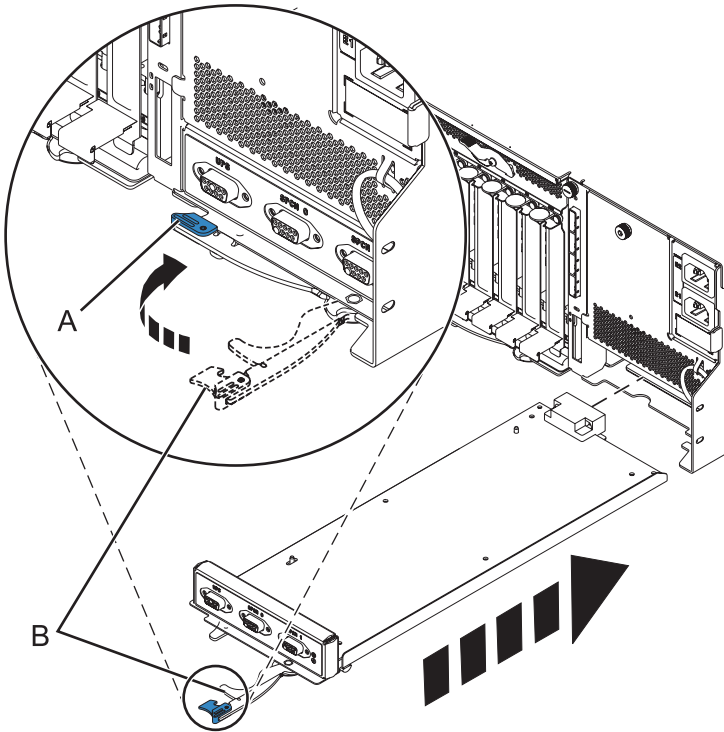

Figure 88. Replacing the enclosure management controller
7. Carefully slide the enclosure management controller into the system and close the latch (A) as shown in Figure 88.